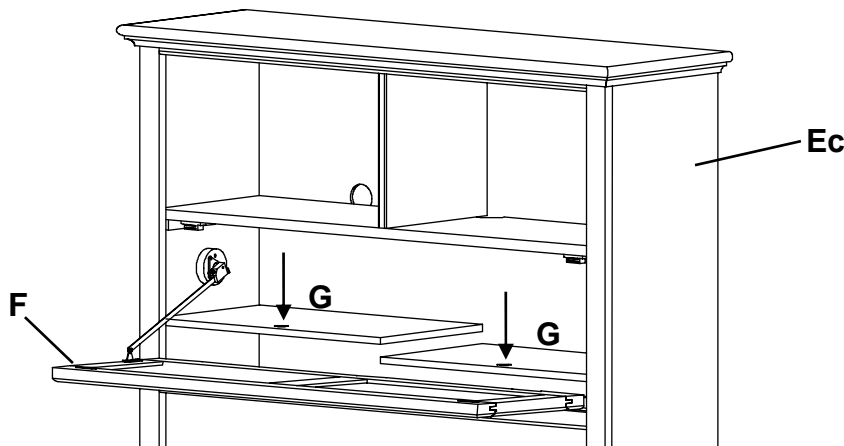

Fig. 15
15. Unwrap the False Bottoms (G) and place them on top of the rails in the Headboard Assembly (Ec). Make sure the finger holes face forward as shown in Figure 15. After you have placed your electronics inside the cubbies, use the Wire Clips (J) on the underside of the cubbies to secure the wires. Close the door tightly making sure the magnetic catches and plates securely touch.